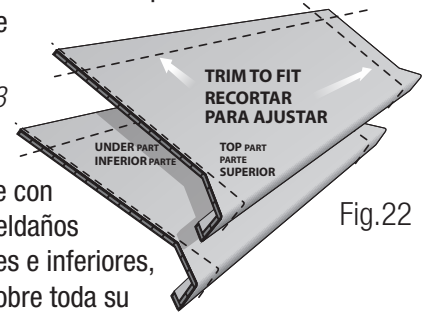

Fig.22
3. Using your ruler and carpenter's square, measure and mark the necessary cuts. Cut and install dry the first set of stair tread caps, carefully check that the two pieces are equal in size and fit together tightly. Refer to Figure 22.